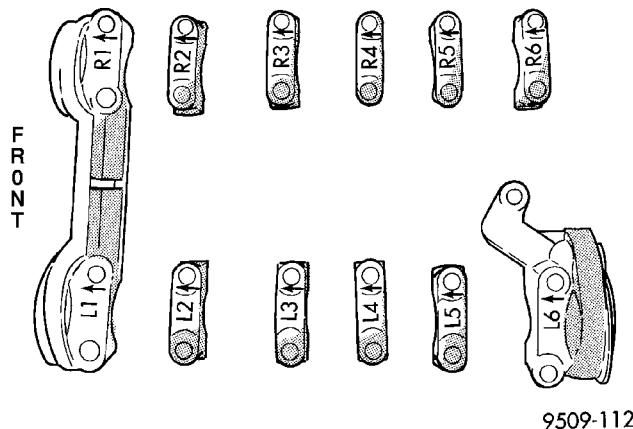

Fig. 25 Camshaft Bearing Cap Identification
(1) Remove cylinder head cover (Refer to 9 - ENGINE/CYLINDER HEAD/CYLINDER HEAD COVER - REMOVAL).
(2) Remove camshaft position sensor and camshaft target magnet (Refer to 8 - ELECTRICAL/IGNITION CONTROL/CAMSHAFT POSITION SENSOR - REMOVAL).
(3) Remove timing belt (Refer to 9 - ENGINE/VALVE TIMING/TIMING BELT AND SPROCKETS - REMOVAL).
(4) Remove camshaft sprockets and timing belt rear cover (Refer to 9 - ENGINE/VALVE TIMING/TIMING BELT COVER(S) - REMOVAL).
(5) Bearing caps are identified for location. Remove the outside bearing caps first (Fig. 25).